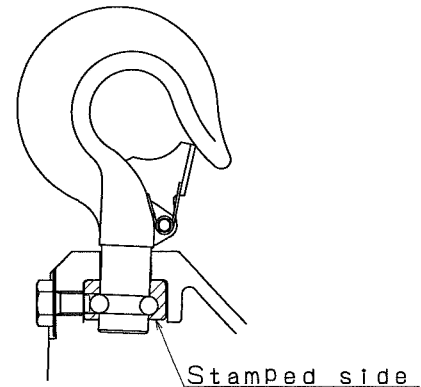

Fig.12
Install Hook holder(7) so the non-stamped side bears the load (See Fig. 12).